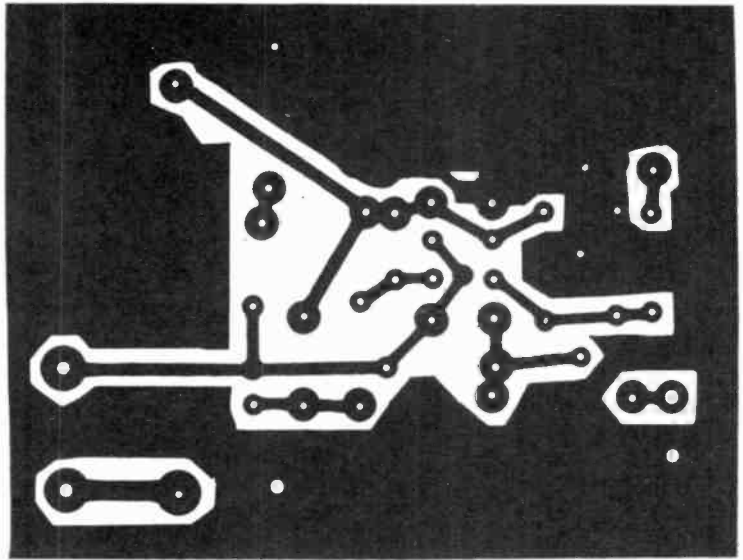
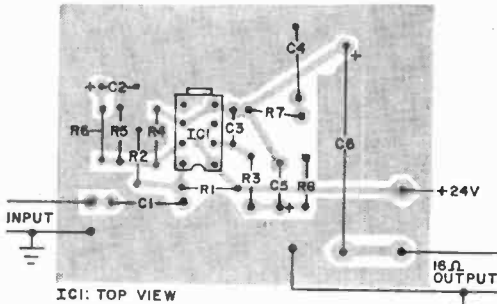

Fig. 2. Use this actual size layout for the PC board for the amplifier. Large amount of foil left on the board acts as an extra heat sink for IC1.
Fig. 3. Install the components as shown here. If you don't have a 16-ohm speaker, use two 8-ohm units in series. Be sure they are phased right.
**Construction.** The circuit for the 2-watt amplifier is shown in Fig. 1. It is assembled on a printed circuit board such as the one shown actual size in Fig. 2. When you have completed the board, mount all of the components, except IC1, as shown in Fig. 3. To prepare the IC for mounting, use a pair of long-nose pliers to bend its leads, including the large heat-sink tab, so that they are at right angles to the body of the IC. Be sure that the IC is properly positioned before mounting it on the board; a small notch at one end of the IC must be oriented as shown in Fig. 3.